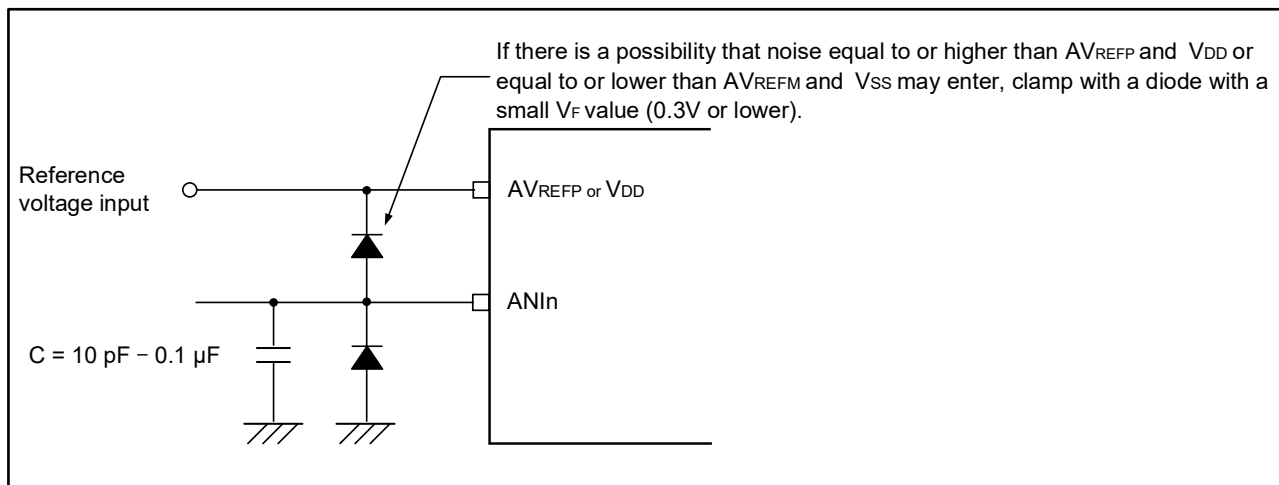

Figure 11: Sample Protection Circuit for Analog Inputs
- (1) Connect a capacitor with a low equivalent resistance and a good frequency response to the power supply.
- (2) The higher the output impedance of the analog input source, the greater the influence. To reduce the noise, connecting external capacitor as shown in Figure 11 is recommended.
- (3) Do not switch these pins with other pins during conversion.
- (4) The accuracy is improved if the HALT mode is set immediately after the start of conversion.
To make sure that sampling is effective, however, it is recommended to keep the output impedance of the analog input source to within 1 k Ω , and to connect a capacitor of about 0.1 μ F to the $ANIn$ pins (Figure 11).